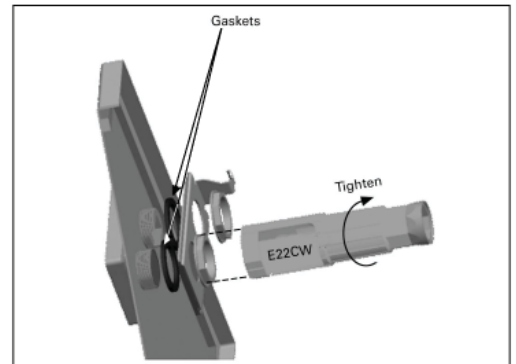

FIGURE 2. DOOR CUT AWAY FOR CLARITY
- Insert remote display through the door and add two gaskets provided behind the door (see **Figure 2**).